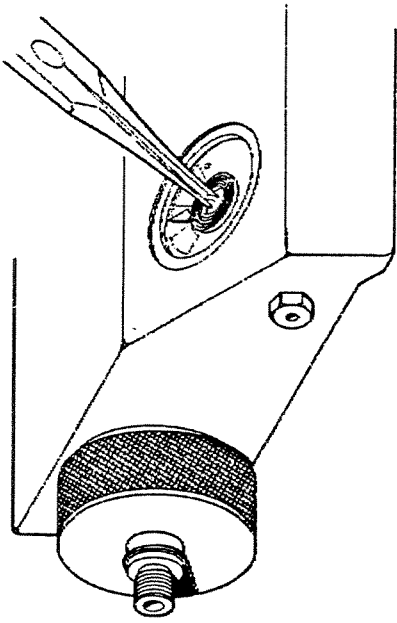

FIGURE 4-6 REMOVING THE GAUGE
7. Pressurize the RCM slightly to unseat the gauge, then grasp the center of the gauge with needle nose pliers and pull it straight out of the housing (Figure 4-6).